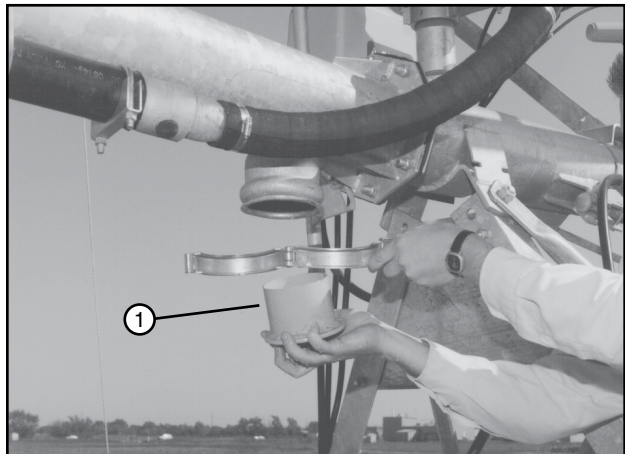

Figure 90-2 1. Sand Trap
4. Remove and clean the sand trap at the last regular drive unit. See Figure 90-2.